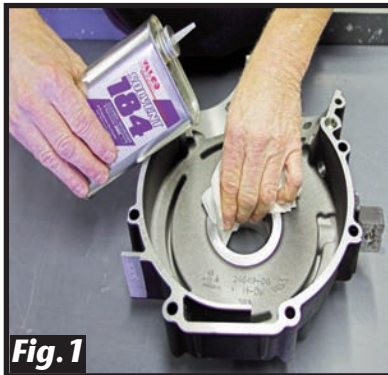

Fig. 1
1. With your left case washed with JIMS cleaner No.1102, 184 solvent, or equivalent, you are then prepared for reassembly. **See Fig. 1.**